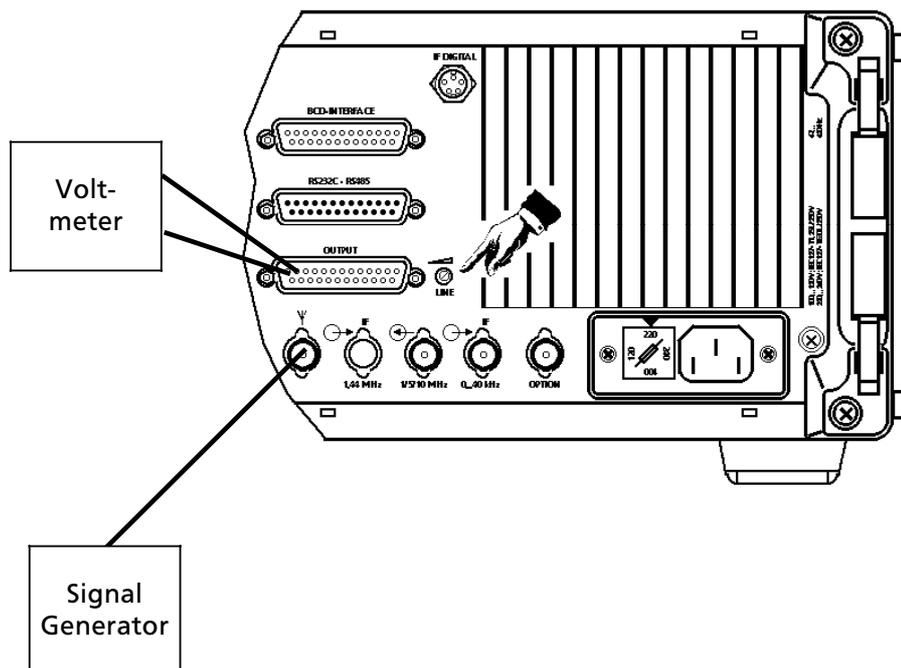

Fig. A1.1 Location of Variable Resistor LINE and Test Setup
2. Disconnect RF cable from antenna socket (see Fig. A1.1).